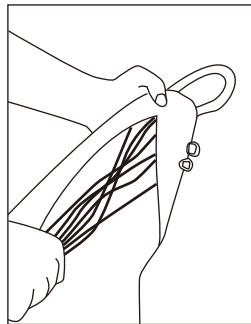

Fig. 6
3. Place Grips and wire into Jacket, feed pulling eyes through top opening (Fig 6).